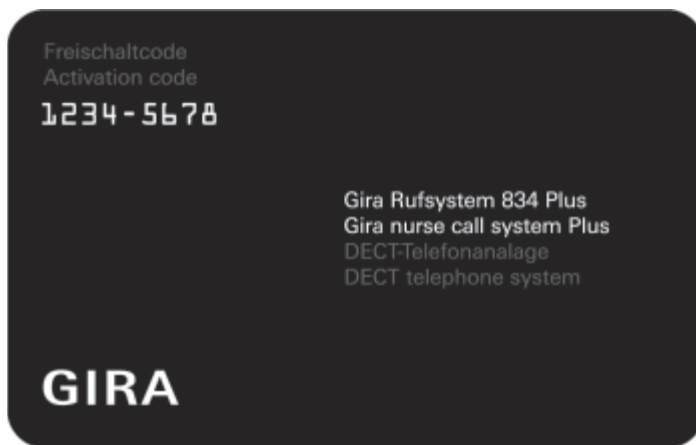

Fig. 4.9: Key card for enabling (e.g. a DECT telephone system)
- Gira sends you a key card for each software package (see Fig. 4.9).